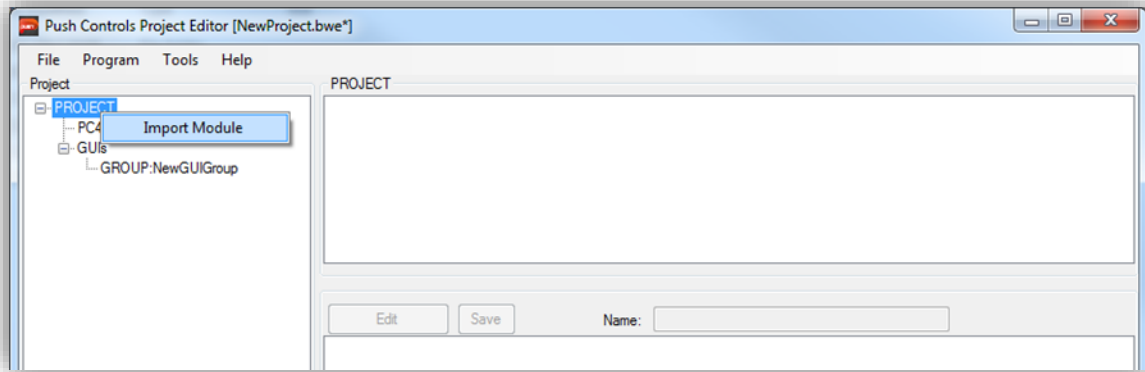

Figure 4 – Right click on PROJECT, inside the project tree, to import a module.
- Right click on 'PROJECT' at the top of the tree and select 'Import Module'. *Refer to Figure 4*